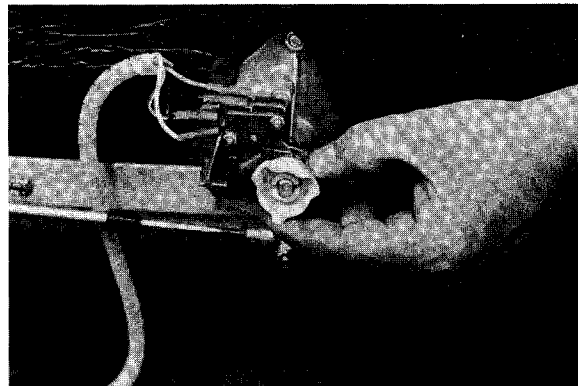

Figure 5-36
1. Install cam (**Figure 5-36**).